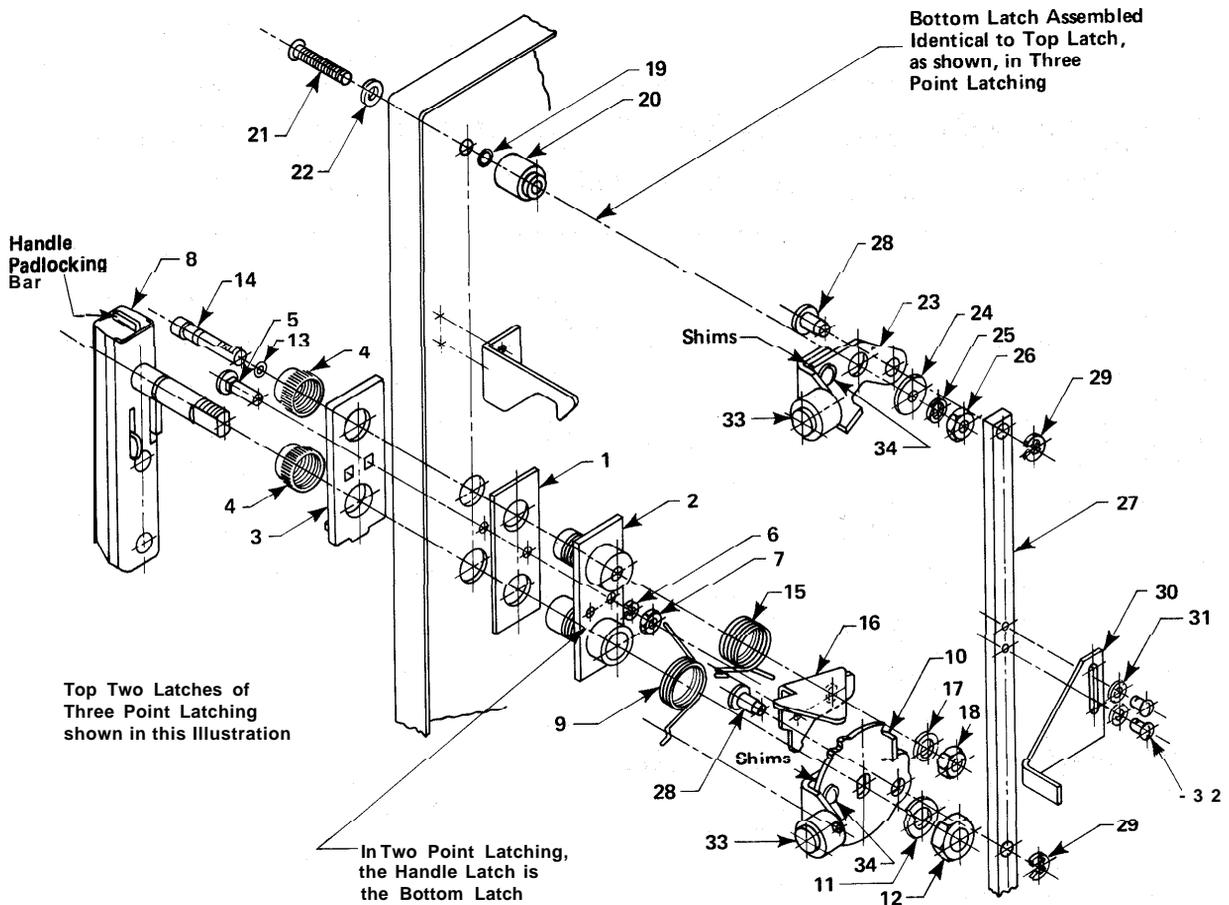

FIGURE 4
Refer to Figure 4 for the following steps.
5. The door handle has provisions for locking in the fully closed position. To lock, pull out the handle padlocking bar, Figure 4, and insert a 3/16" (4.8) minimum to 3/8" (9.5) maximum lock hasp.